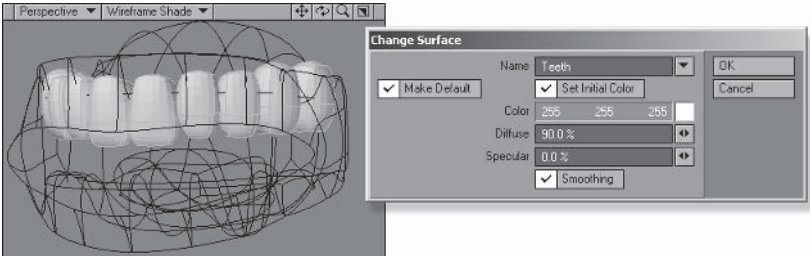

Figure 5.3-118. Surface the teeth.
11. When you're happy with the positions, place the mouth layer in the background, **Mirror**, then **Change Surface** to **Teeth**, using the other settings from Figure 5.3-118.